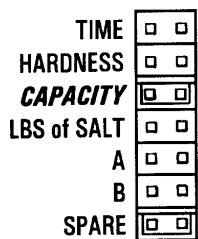

Figure 7
5. Place the jumper on the pins marked **CAPACITY** (Figure 7). Press the black **TIME SET** button until the correct capacity value is displayed. The capacity range is 6 to 47 kilograins. Refer to the Salt and Capacity Setting chart (Table 4).